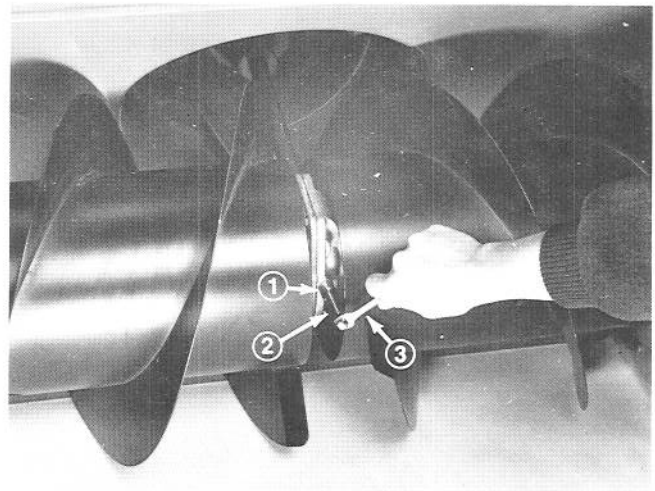

Figure 21
2. Remove pipe plug from gear box by placing the open end of a 3/8" drive socket extension over plug and using a 3/8" open end wrench on the square end of the extension (Fig. 21).
5. Install pipe plug in gear box (Fig. 21).